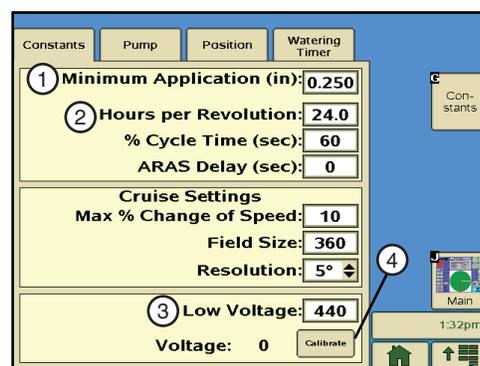

Figure 37-3 1. Minimum App 2. Hours per Rev 3. Low Voltage 4. Calibrate
5. Go to the Constants screen to set the pivot minimum application, time per revolution, and voltage. See Figure 37-3.
2. Go to the Position screen. See Figure 37-3.
- (a) From the Main screen push **Setup (F)** and then **Constants (G)**.